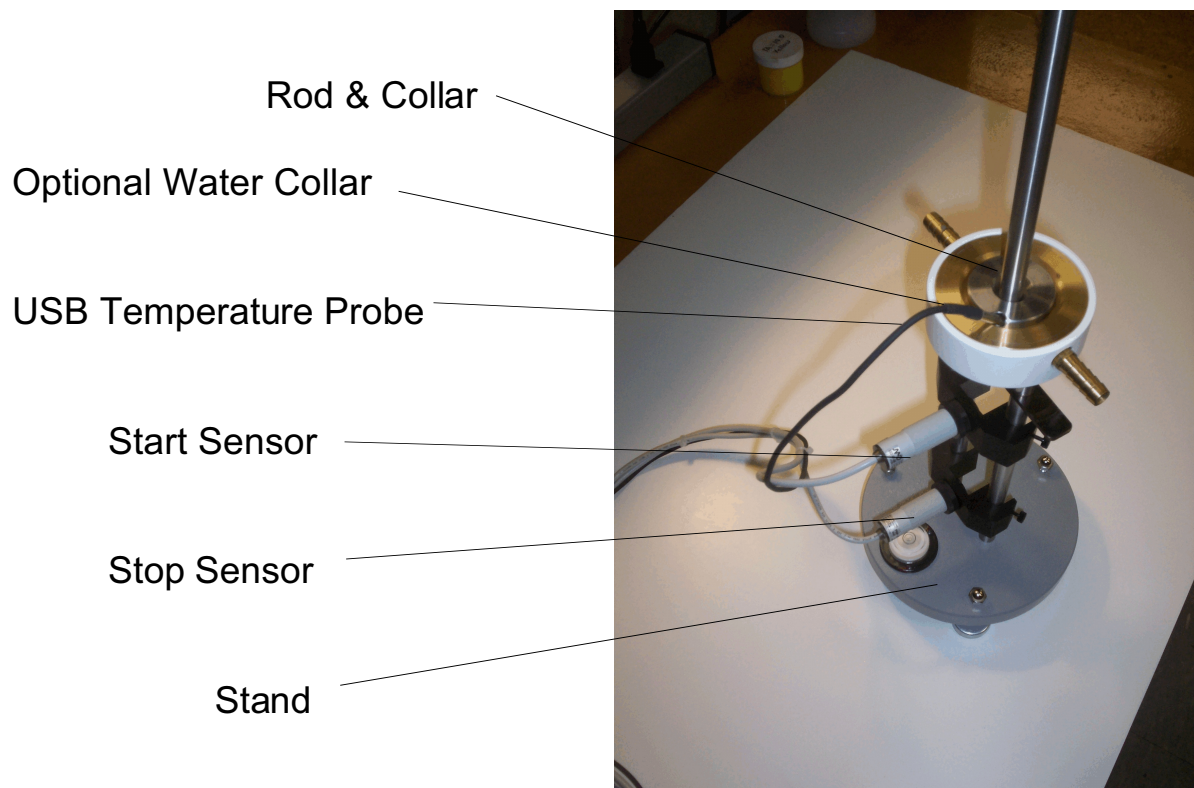

Figure 3 : Viscometer Stand components
3.1 Rod Sensors - Attach the rod sensors to the support column on the support stand as shown in Figure 3. Notches have been provided 100mm apart on the support column to provide proper spacing. Attach the “start” sensor at the top notch and the “Stop” sensor at the bottom notch.
3.2 Optional Water Collar - Install the water collar as shown in Figure 3.
3.3 Temperature Probe installation - Install the USB Temperature probe as shown in Figure 3
3.4 Rod & Collar - Install the Rod & Collar as shown in figure 3.